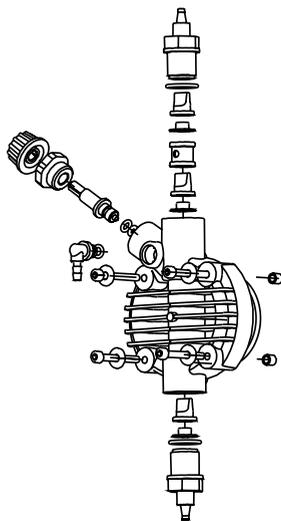

Fig. 10
- the additive concentration in the pipework; a reduction of this concentration could be caused by the wearing of the valves, in which case they need to be replaced (Fig. 10) or by the clogging of the filter which then has to be cleaned as in point 3 here below.
This operation can also be done with the pump disconnected from the plant by turning the pump upside-down for 15 to 30 seconds and without connecting the hose to the nipples; if impossible, dismount and remount the pump head (Fig. 10) using the four mounting screws.
As the system is quite robust there are no apparent mechanical problems. Occasionally there might be a loss of liquid from the nipple because the tube nut has loosened, or more simply the discharge tubing has broken. Very rarely there may be losses caused by the breakage of the membrane, or by the membrane seals in which case they have to be replaced by disassembling the four screws of the pump head (fig. 10), when re-mounting the pump head ensure that the screws are replaced properly, along with “O” ring. After repair, the metering pump will need to be cleaned of additive residues which can damage the pump casing.
❶ THE METERING PUMP GIVES PULSES BUT THE ADDITIVE IS NOT INJECTED
- Dismount the suction and discharge valves, clean them and replace, see position (fig. 10). Should the valves be swollen, check valves material against our chemical resistance compatibility chart and fit correct valves. Standard valves are Viton. Upon request ball check valve, can be supplied.